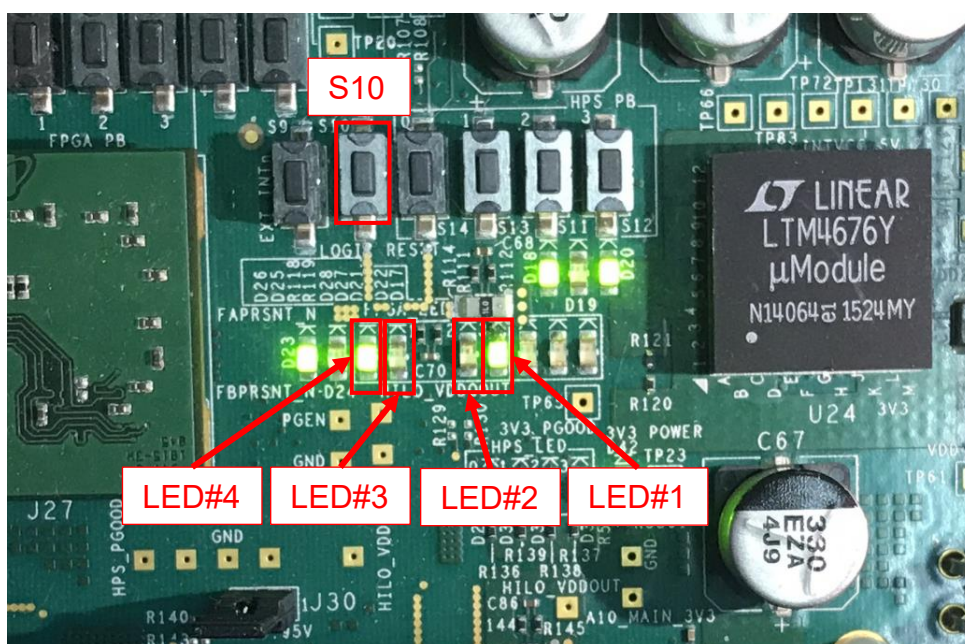

Figure 3-4 LEDs status on board
- 7) When configuration is completed, user can check status LEDs on board as Figure 3-4